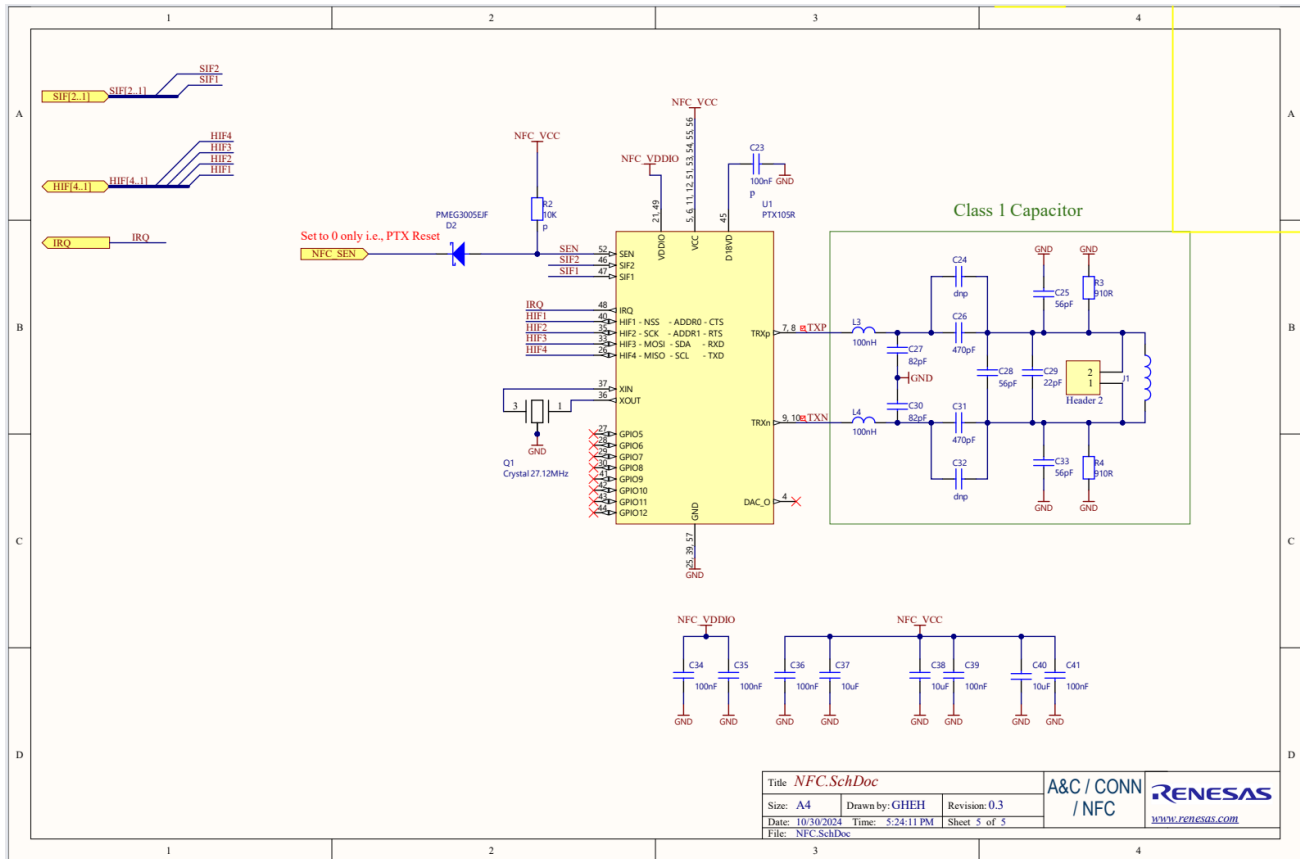

Figure 10. Schematic Sheet 5
- Figure 10. Schematic Sheet 58